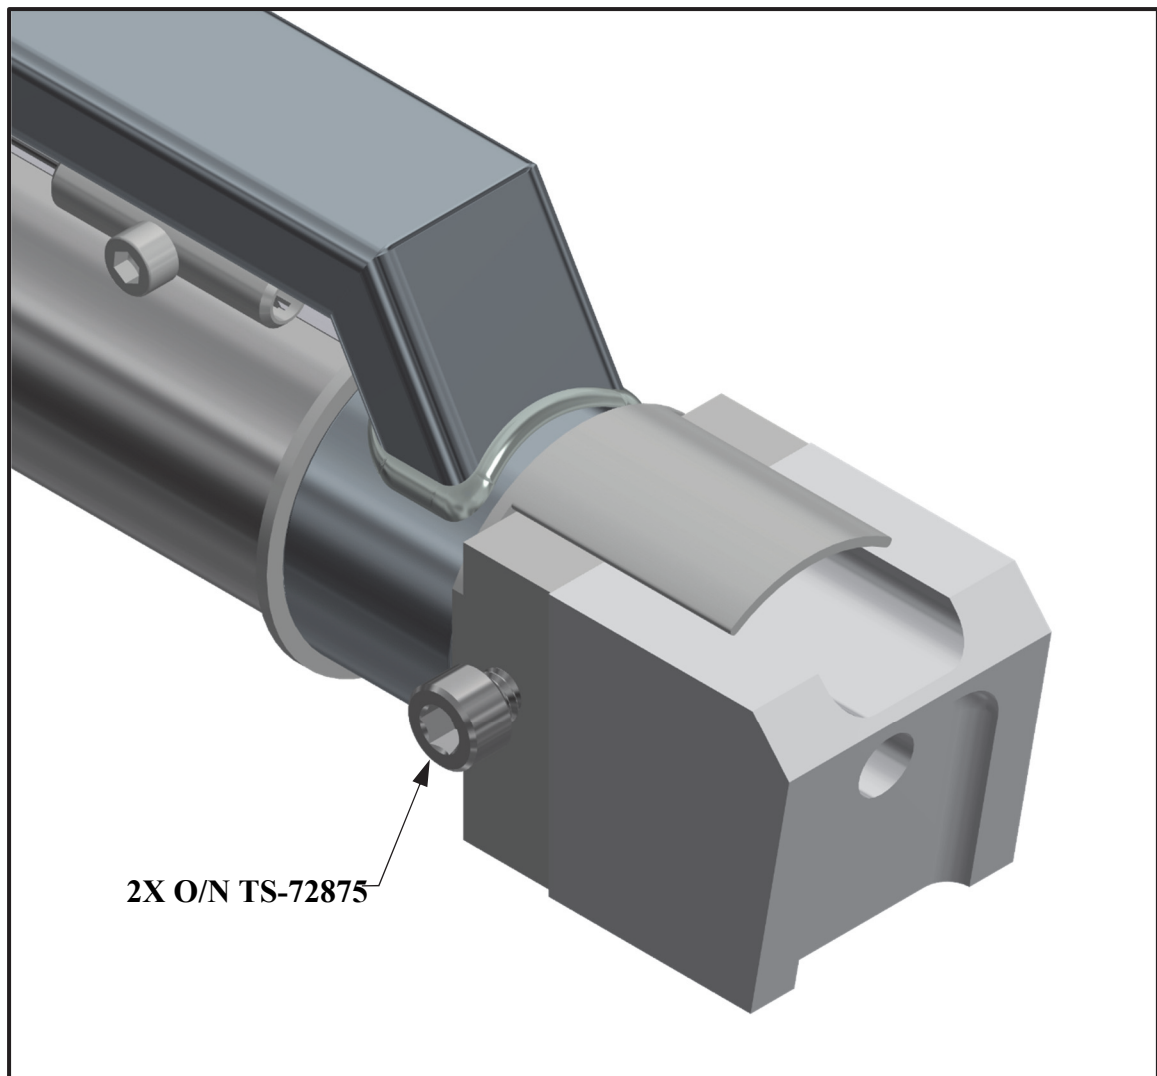

Figure 8.4
- a. Using a 5mm hex wrench remove the two socket head cap Screws, order number TS-72875, from the Welding Shoe Assembly. The Shoe Assembly may be one of the following: TS-14126, TS-14119 or TS-14118 (see Figures 8.4 and 8.5).